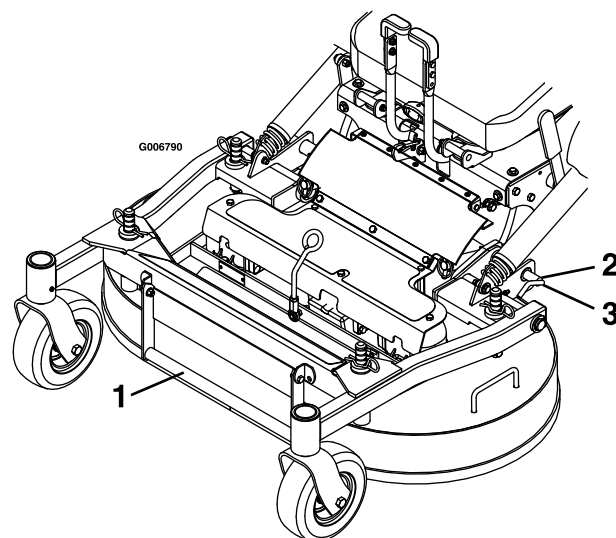

Figure 19
2. Release the mower deck locking pins on each side (Figure 19).
2. Push the deck locking pins inward and rotate them forward to securely lock the mower deck in the lowered position (Figure 19).